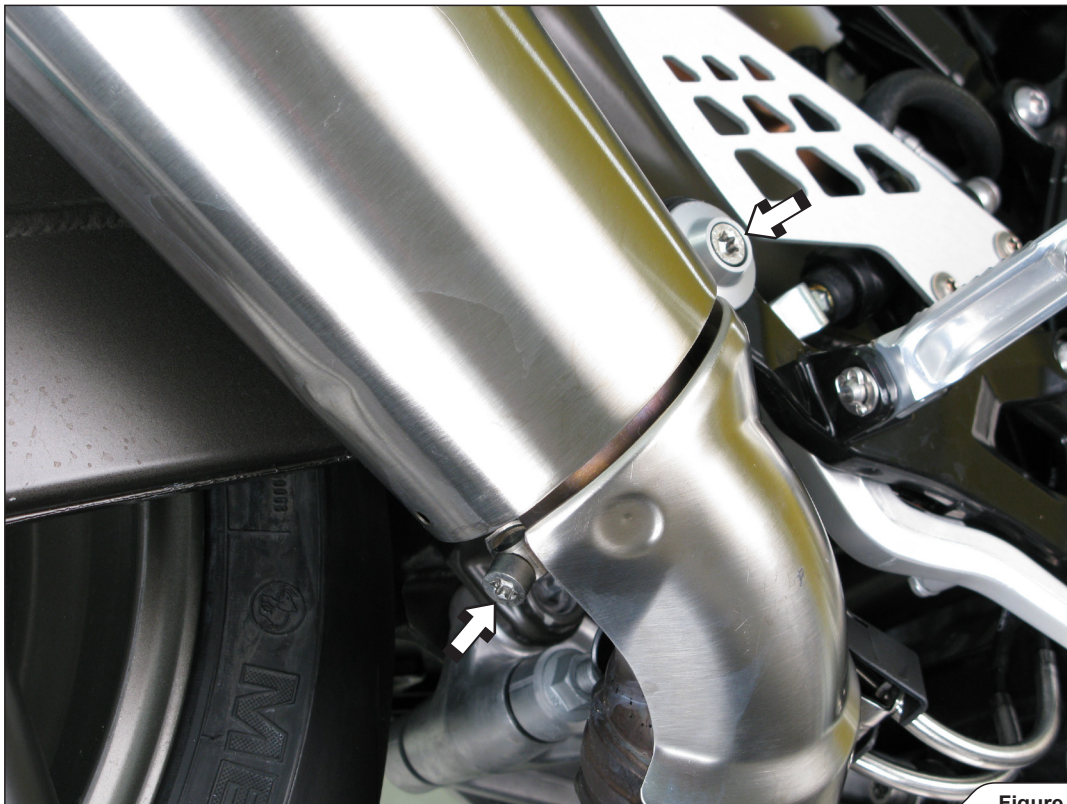

Figure 1
2. Unscrew the marked bolts from the muffler hanging bracket and the metal clamp at the muffler-collector connection (Figure 1). Remove the muffler together with heatshield.